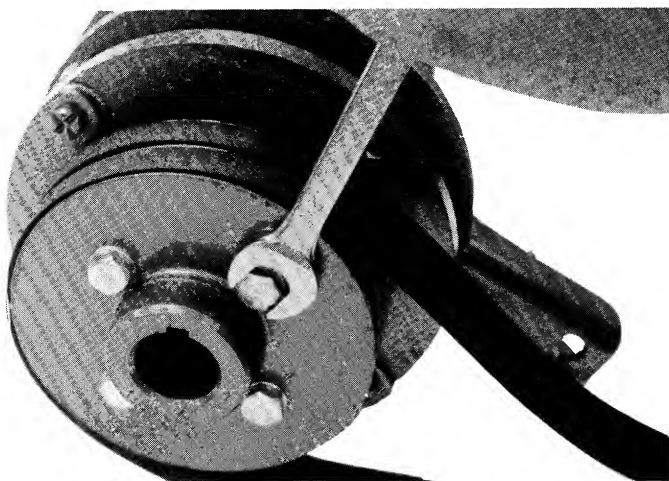

FIGURE 16. REMOVE CAP SCREWS
2. Remove the four cap screws on the inside of the pulley. See Figure 16.